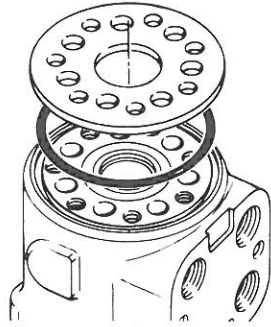

Figure 21
- 19 Install 3" diameter seal in housing, see Fig. 21.